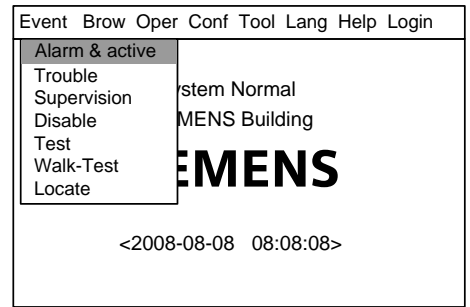

Fig.17-1
1. Press "Menu" to browse the main menu (Fig. 17-1)